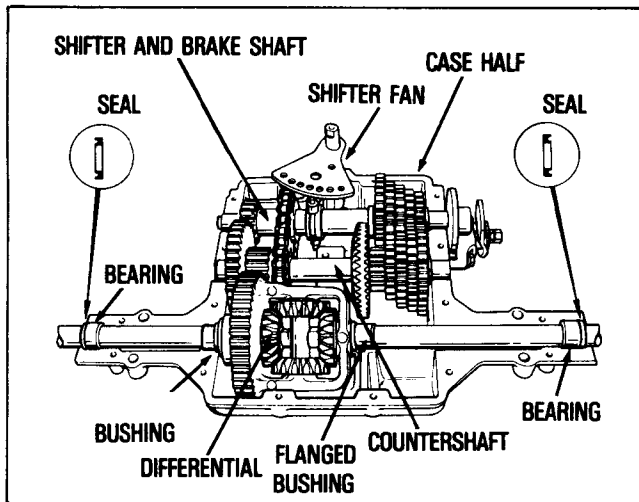

FIGURE 17
Install shafts into case. See Figure 17.
8. Install the following on the differential and axles: bushing, flanged bushing, bearings, seals (if needle bearings used) with grooves facing out. See Figure 17. Install differential in case.
9. Install shifter fan assembly (Figure 17). Pack 36 oz. E.P. Lithium grease around bearings and gearing, and reinstall cover on case. Tighten cap screws to a torque of 90-100 inch pounds (10.1-11.2 Nm).